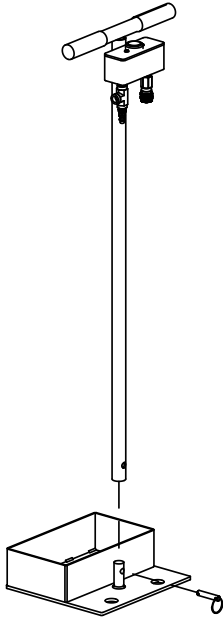

Figure 1
1. Assemble Pump Holder by placing the handle shaft over the stem on the base. Insert locking pin at bottom of the handle shaft (see Figure 1).